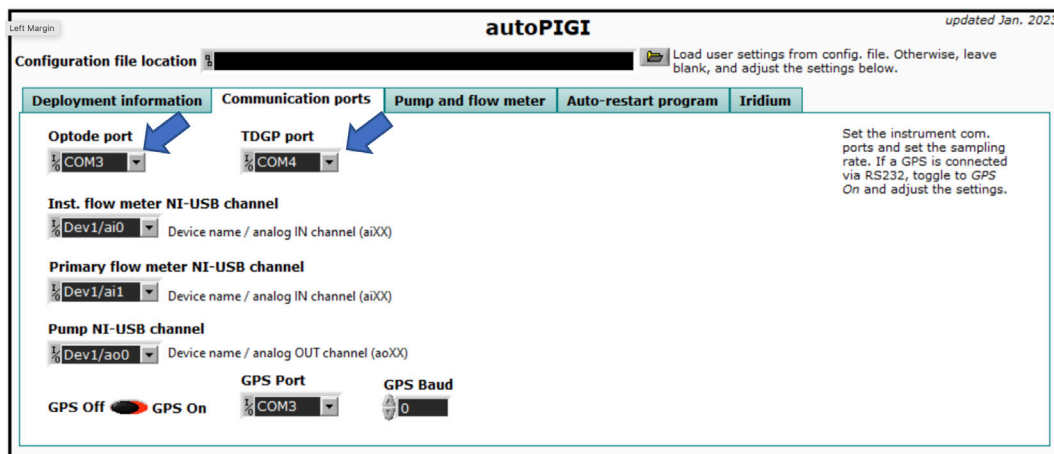

FIGURE S2. Communication Ports. The blue arrows indicate the COM ports to be set.
6. In the communication ports tab, set the Optode port to COM 3 and the TDGP port to COM 4 (blue arrows in Figure S2).